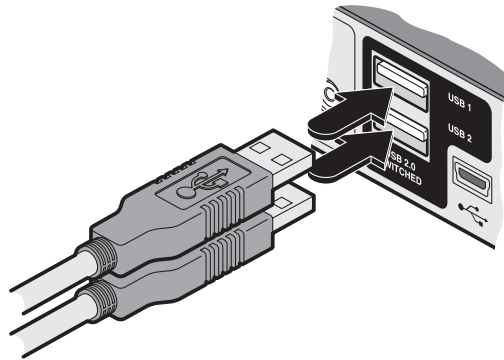

Figure 3-2. Connecting USB peripherals to the user console.
3. USB devices: Where required, attach the leads from your USB peripherals to the USB sockets labeled USB1 and USB2. See Figure 3-2.